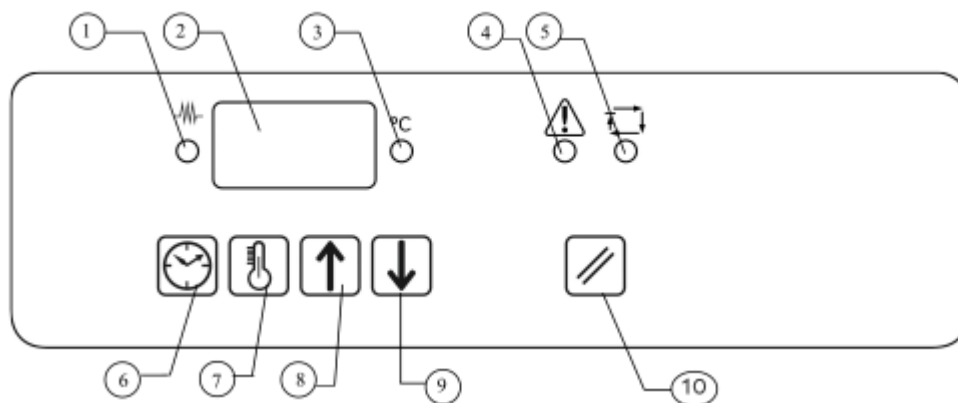

Fig. 8
The TSS102-F thermosealing machine can store up to nine different sealing programs. To select the program to carry out operations, press the RESET (pos. 10 Fig. 8) and the program currently operating will be displayed. Pressing the RESET button and buttons 8 or 9 simultaneously changes the program. Time and temperature values are automatically stored when the sealing program is changed.
- Thermostealing operations cannot be carried out before the sealing plate has reached the set temperature (LED pos.3 Fig. 8). The machine does not perform the cycle.
- If an abnormal condition stops the cycle and the “alarm” LED is triggered (LED pos.4 Fig. 8), press the reset button (pos.10 Fig. 8) to restore the machine operations.